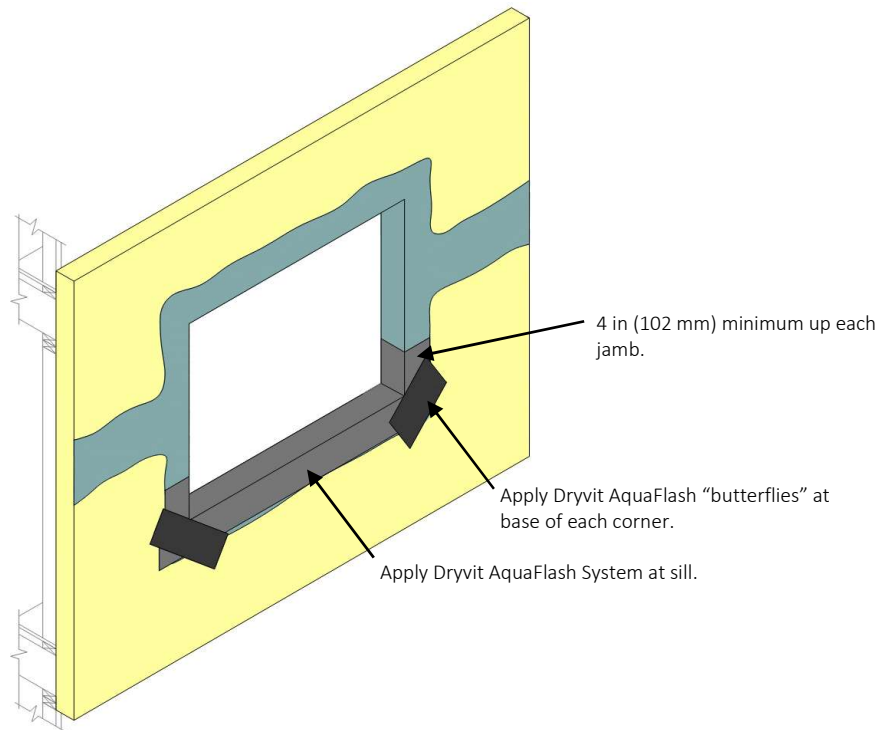

Fig. 10
- 3) Apply Apply Dryvit AquaFlash System at sill in accordance with Sections 4.A.3. **NOTE: AquaFlash System must extend up the jambs a minimum of 4 in (102 mm) – Figure 10.**